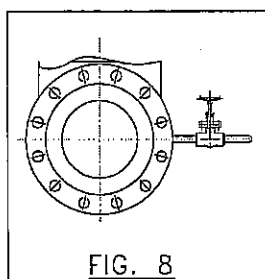

FIG. 8
- *Figure 8* ► it represents a by-pass.